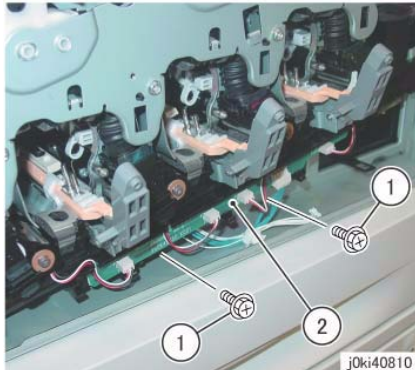

Figure 5 Remove the ATC PWB Assembly
9. Remove the ATC PWB Assembly. (Figure 5)